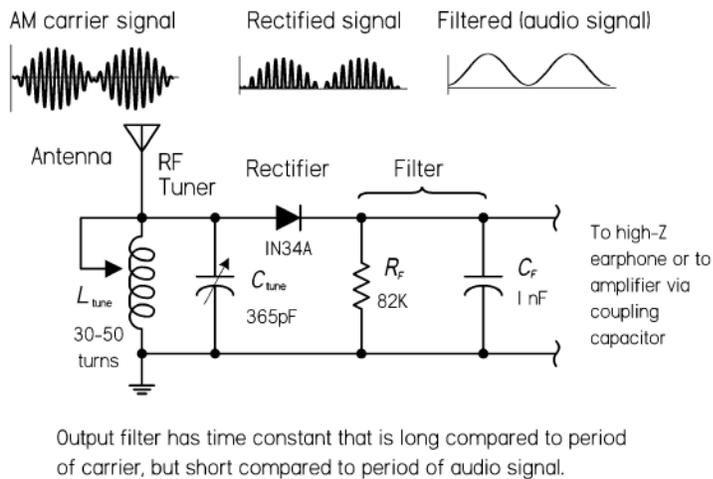

FIGURE 4.25
Diodes are often used in the detection of amplitude modulated (AM) signals, as demonstrated in the simple AM radio in Fig. 4.25. Within an AM radio signal, an RF carrier signal of constant high frequency (550 to 1700 kHz) has been amplitude modulated with an audio signal (10 to 20,000 Hz). The audio information is located in duplicate in both upper and lower sidebands, or the envelope of the AM signal. Here, an antenna and LC-tuning circuit act to “resonate” in on the specific carrier frequency of interest (transform radio signal into corresponding electrical signal). A signal diode (e.g., 1N34) is then used to rectify out the negative portion of the incoming signal so it can be manipulated by the next dc stages. The rectified signal is then stripped of its high-frequency carrier by passing through a low-pass filter. The output signal is the audio signal. This signal can be used to drive a simple crystal earpiece, a modern sensitive headphone, or a telephone receiver earpiece. (Low-impedance earphones or speakers will require additional amplification via a coupling capacitor of 1 μ F or so.)